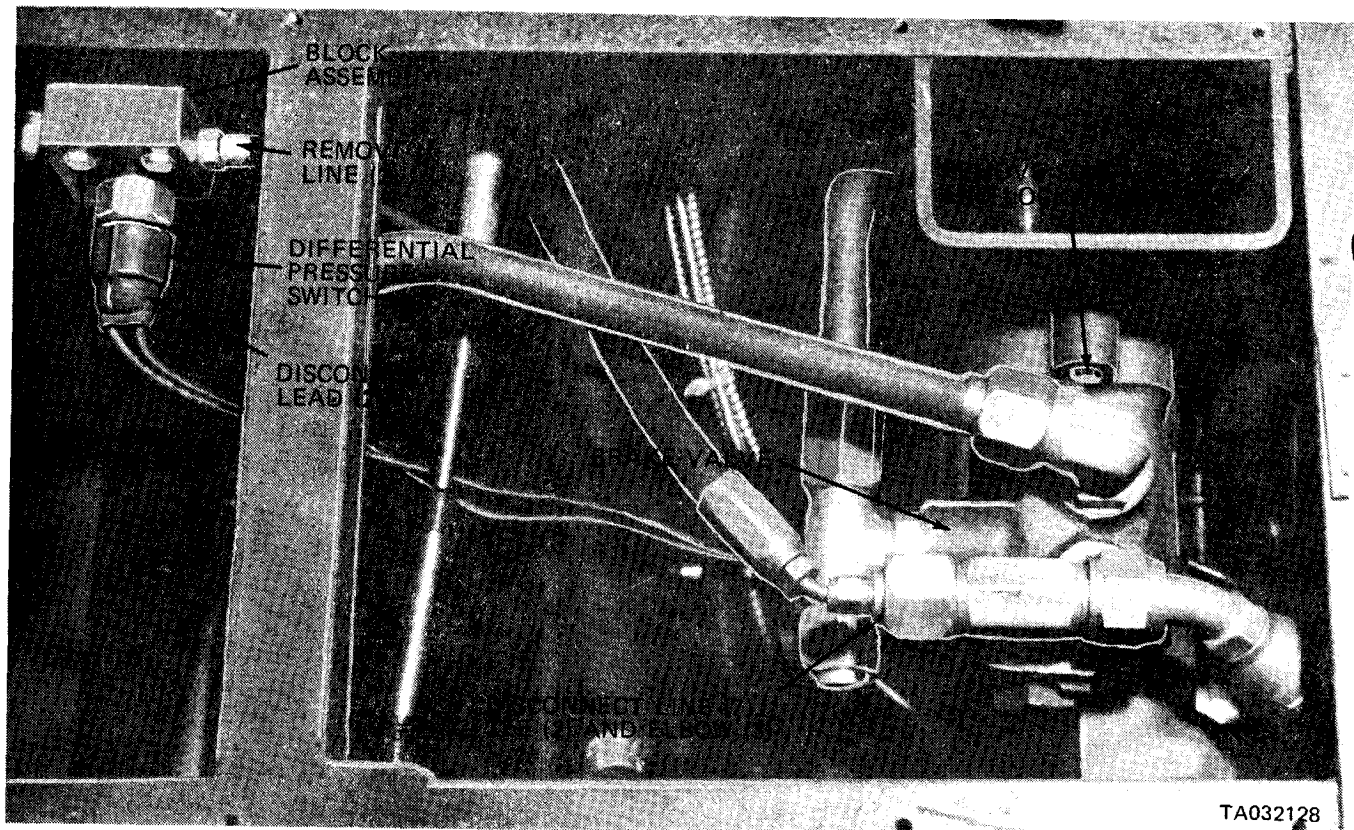

Figure 5-9. Differential pressure switch and brake valve, removal and installation.
- (1) Remove the driver's floor plate and access panel under the left fender (TM 10-3930-634-12).
- (2) Refer to figure 5-9 and remove the differential pressure switch and brake applicator valve.
(1) Refer to figure 5-9 and reinstall the brake valve.
(2) Install the access panel under the left fender and install driver's floor plate (TM 10-3930-634-12).